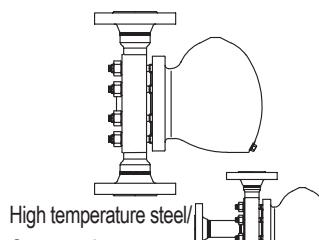

Fig. 631 / Fig. 632
- with butt weld ends (Fig. 631....4)